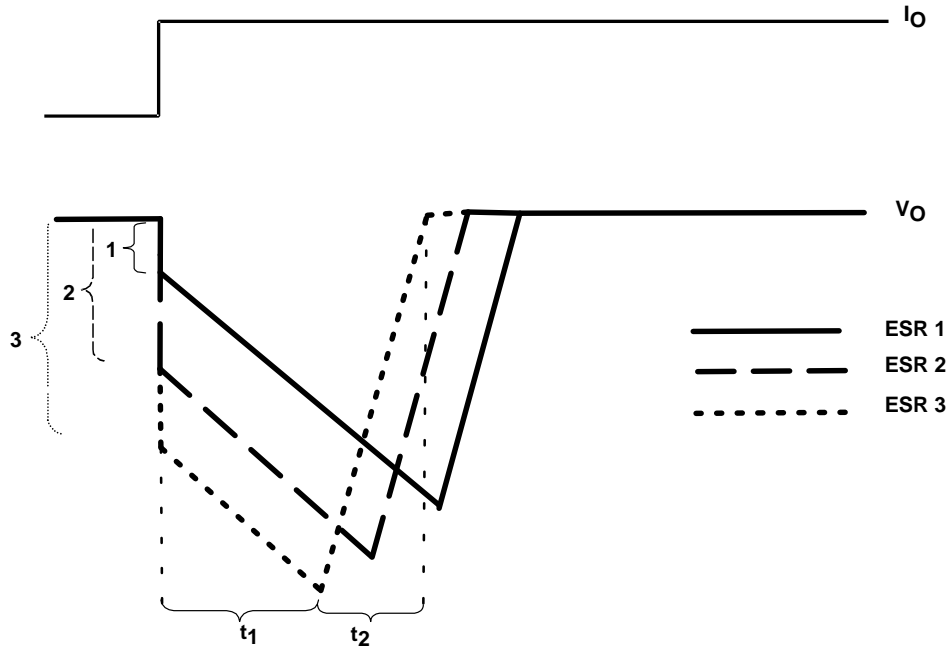

Figure 23. Correlation of Different ESRs and Their Influence to the Regulation of  $V_o$  at a Load Step From Low-to-High Output Current
- The LDO is not able to supply the sudden current need due to its response time ( $t_1$  in Figure 23). Therefore, capacitor  $C_O$  provides the current for the new load condition (dashed arrow).  $C_O$  now acts like a battery with an internal resistance, ESR. Depending on the current demand at the output, a voltage drop will occur at  $R_{ESR}$ . This voltage is shown as  $V_{ESR}$  in Figure 22.
- When  $C_O$  is conducting current to the load, initial voltage at the load will be  $V_O = V(C_O) - V_{ESR}$ . Due to the discharge of  $C_O$ , the output voltage  $V_O$  will drop continuously until the response time  $t_1$  of the LDO is reached and the LDO will resume supplying the load. From this point, the output voltage starts rising again until it reaches the regulated voltage. This period is shown as  $t_2$  in Figure 23.
Figure 23 also shows the impact of different ESRs on the output voltage. The left brackets show different levels of ESRs where number 1 displays the lowest and number 3 displays the highest ESR.